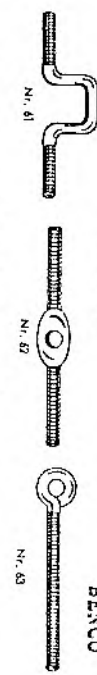

FIG. 6
**Discs and wheels** Italy has several good systems, and Bral is currently available in Canada at least. Bral has #66 and #67 wheels with treads (what Meccano persists in calling "flanges") 6.5, 8 and 9.5cm in diameter, and Märklin several similar items in sizes smaller and larger than Meccano hub discs, of sturdier form, with more spokes and hence divisions of the circle. Constructioneer (U.S.A.) had a 12-hole-circle faceplate, #A142 "eccentric plate" (Fig.6), Miniator (Belgium) #102 and #107 12-hole faceplate and pulley versions. Finally Exacto (Argentina) has introduced #109a and #109b 10- and 12-hole faceplates, as well as #24d-e 5-hole bush wheels and discs. Gilbert Erector's FB cam, drum-shaped like a wheel with "flange" of varying width, could be used singly or in a facing pair to produce push-pull linear motion parallel to the axis of the cam (Fig.7).